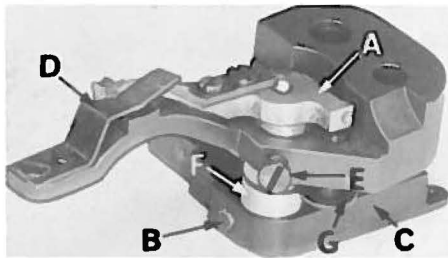

Fig. 31
1. There should be no bind or shake in lower knife pivot carrier (A, Fig. 31). This adjustment can be made by loosening screw (B) on the pivot release lever (C) and taking up the excessive end play or relieving the bind as the case may be.